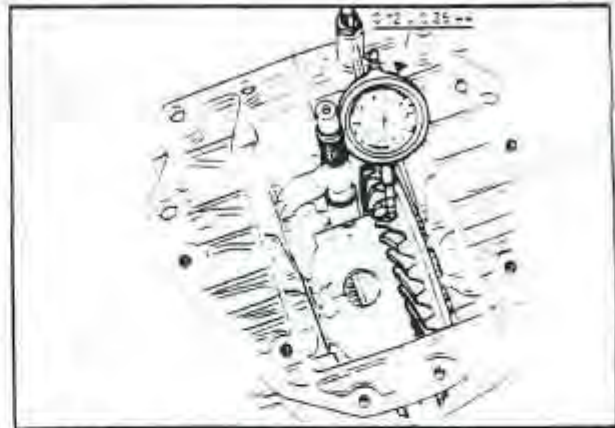

Fig. 82 RING GEAR BACKLASH
- b. Attach a dial indicator to the final drive case and set the indicator tip on the outer edge of a ring gear tooth. *Fig. 82*